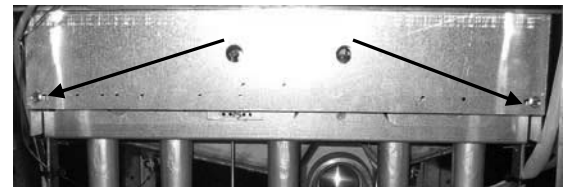

Figure 1
2. Remove the outer cover plate by removing two screws as shown in Figure 1.